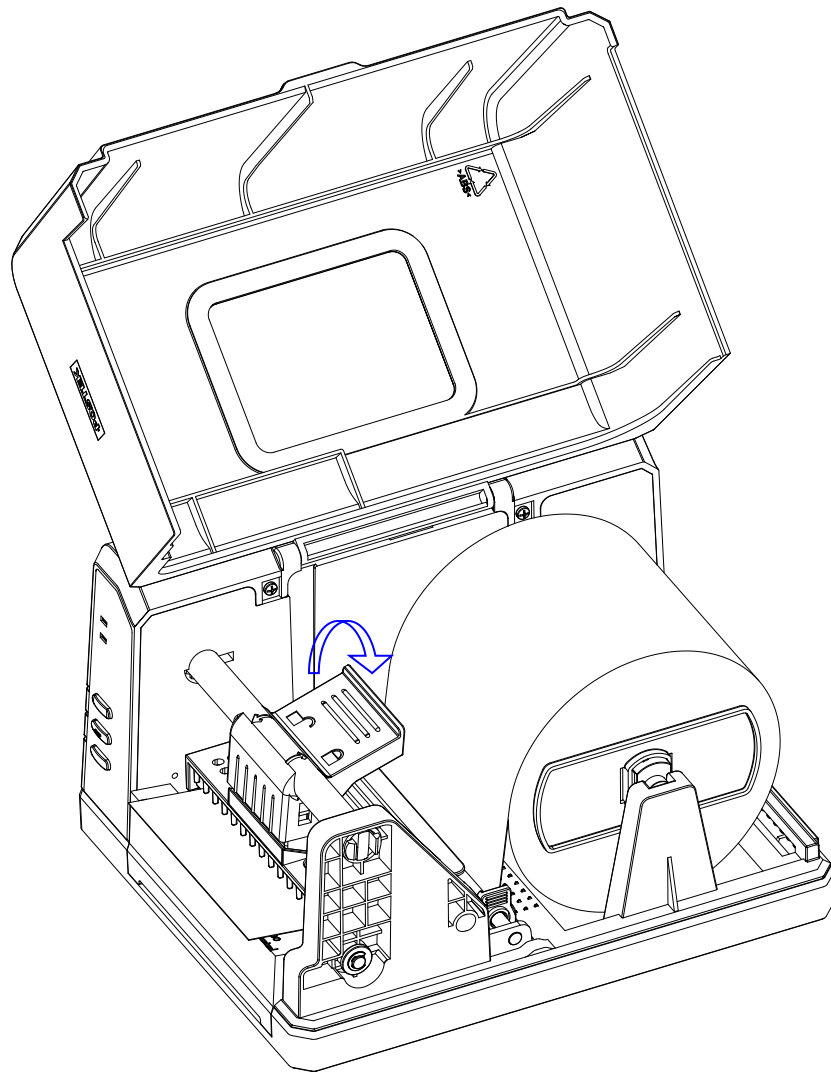

Figure 5-4
11. Press down the Handle of the Printhead to lock the Printhead (see Figure 5-4).